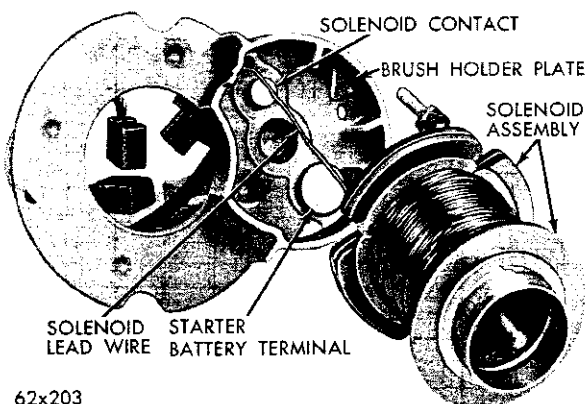

Fig. 39—Assembling Solenoid to Brush Holder Plate
(16) Enter the solenoid lead wire through the hole in the brush holder (Fig. 39) and solenoid stud, insulating washer, flat washer and nut.